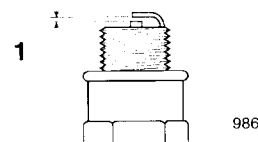

Figure 35
5. Set the gap on the plug at 0.030 inch (0.76 mm) (Fig. 35).